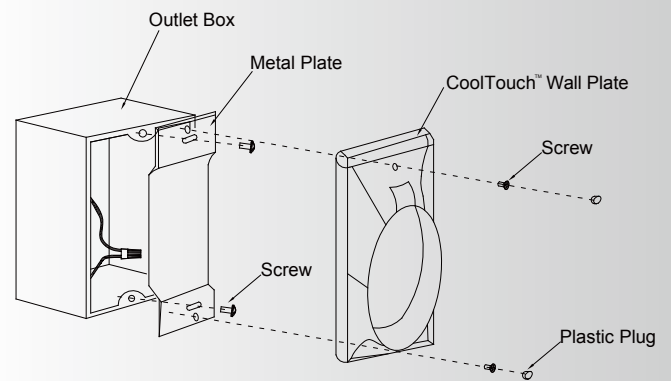

Fig. 26
Step 2: Install the metal plate and CoolTouch™ wall plate to the existing wall outlet box with 4 screws provided. Then place the two plastic plugs into the wall plate. (Fig. 26)